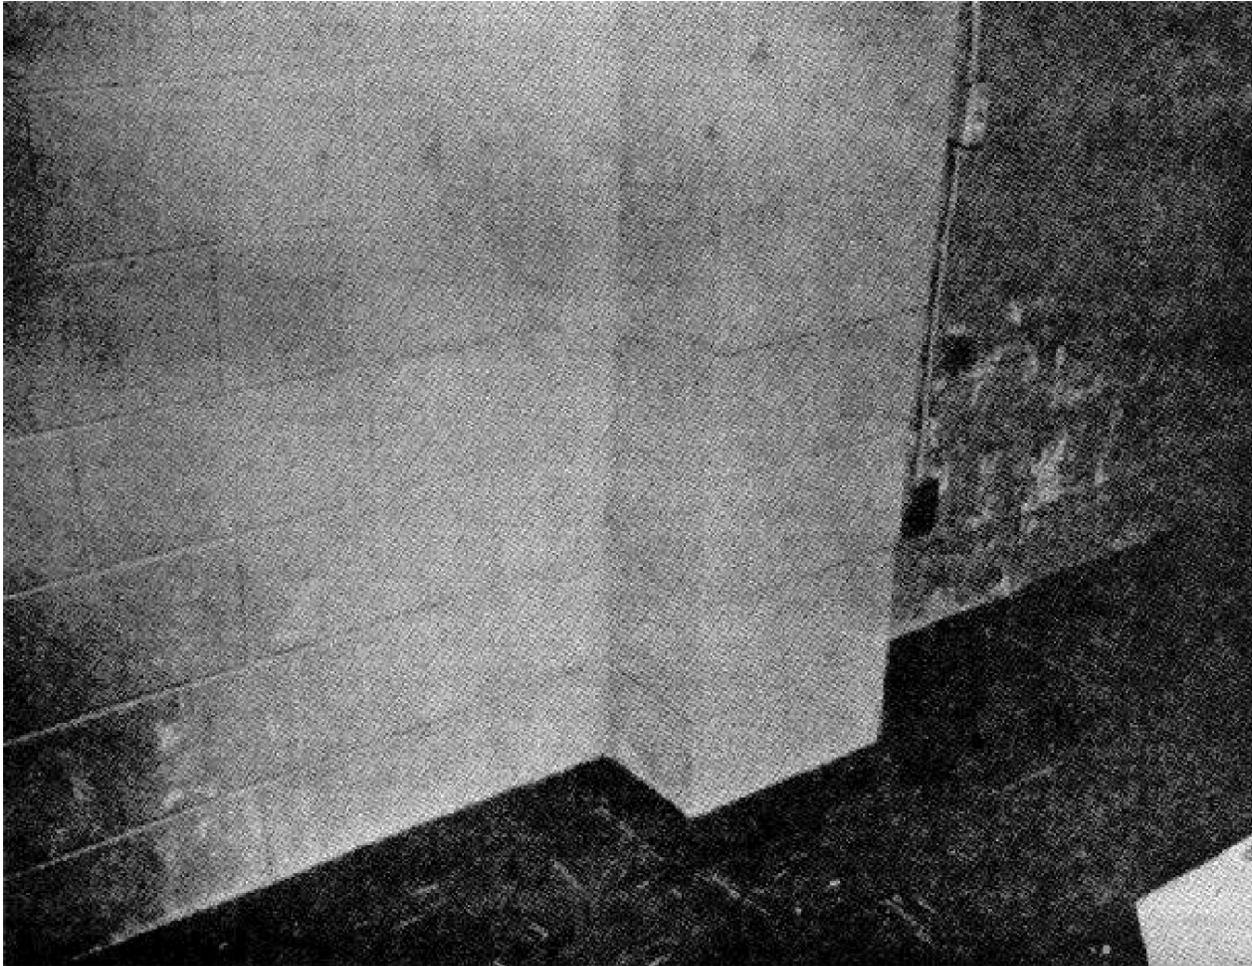

FIGURE 5-18
c. Efflorescence: Concrete, stucco, masonry, and plaster contain water soluble salts which dissolve in moisture carried through the substrate and then crystallize on the exposed surface. If the paint is water permeable, e.g., latex paint, the solution will pass through the coating and discolor the surface in a nonuniform spotty manner. If the coating is not permeable, the salts may be deposited under the paint film and cause it to lose adhesion in spots. (See Figures 5-18 and 5-19.) All efflorescence must be removed before repainting, and the cause eliminated (see 4.4.3.4b).